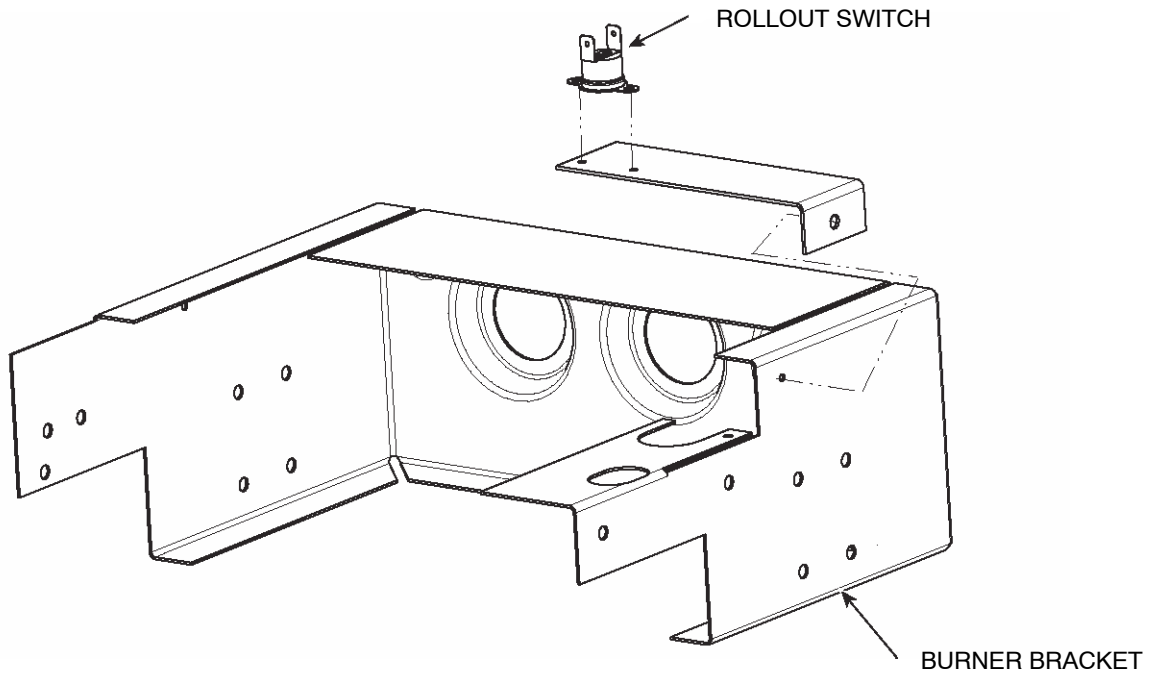

Figure 8
15. Install the 1/8 in. NPT x 3/4 in. (19 mm) close pipe nipple where the plug was removed. See Fig. 8. Use pipe thread dope or tape (field--supplied, must be certified for use with propane gas) for all joints, making sure not to get any excess in the pipe or valve. Next, install a 1/8 in. elbow, a 1/8 in. NPT x 3/4 in. (19 mm) close pipe nipple, 1/8 in. elbow, 1/8 in. x NPT 2 in. (51 mm) nipple, and a low gas pressure switch as shown in Fig. 8.